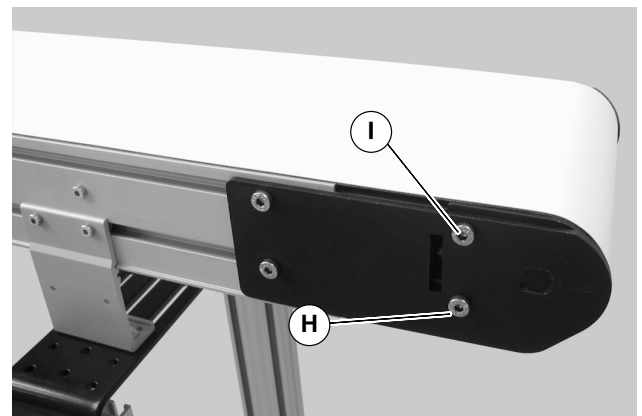
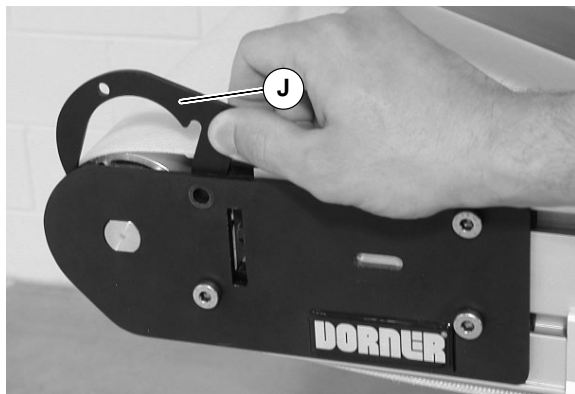

Figure 4
Figure 5
3. Loosen screw (H of Figure 4) on both sides of conveyor.
- Remove screw (I of Figure 4) on both sides of conveyor. Remove existing spacer plates (J of Figure 5) on both sides of conveyor.